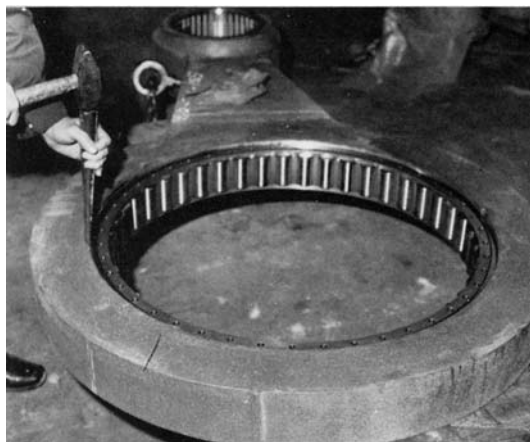

Figure 5-10 Removing connecting rod bearing
- 4 Use a hammer and suitable drift to remove connecting rod bearing from connecting rod (Figure 5-10)